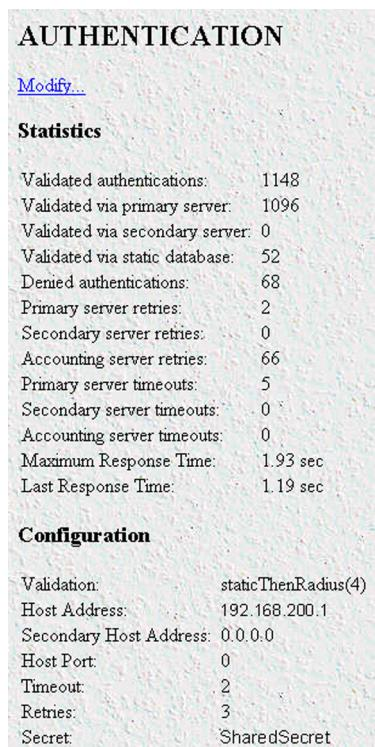

Figure 25. Authentication main window
1. Select Authentication on the Configuration Menu. The Authentication window displays (see figure 25).
1. Select **Authentication** on the Configuration Menu. The Authentication window displays (see figure 25 on page 44).